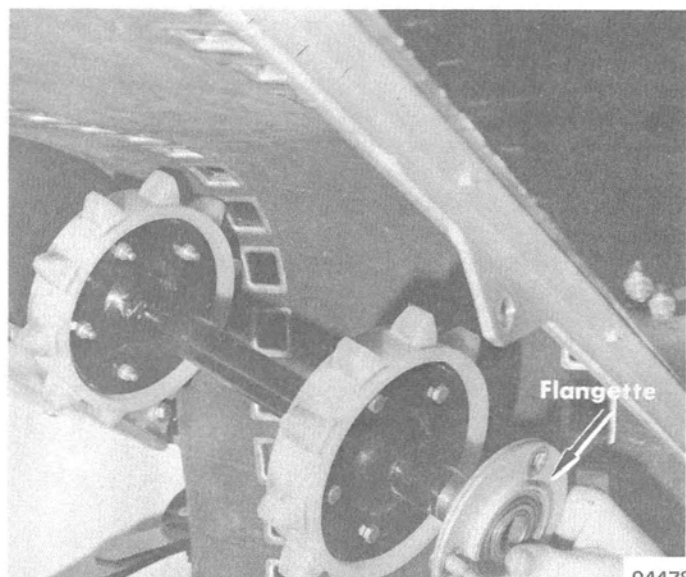

Figure 4. Installing Right Side Flangette and Bearing
1. With track in tunnel, place front axle in chassis with splined end in chaincase. Be sure "O" ring on seal adaptor is intact and in position (if so equipped). On models without seal adaptor, place support plate on inside of chassis. Place right side bearing and flangettes on axle and place in position in chassis. (Figure 4)